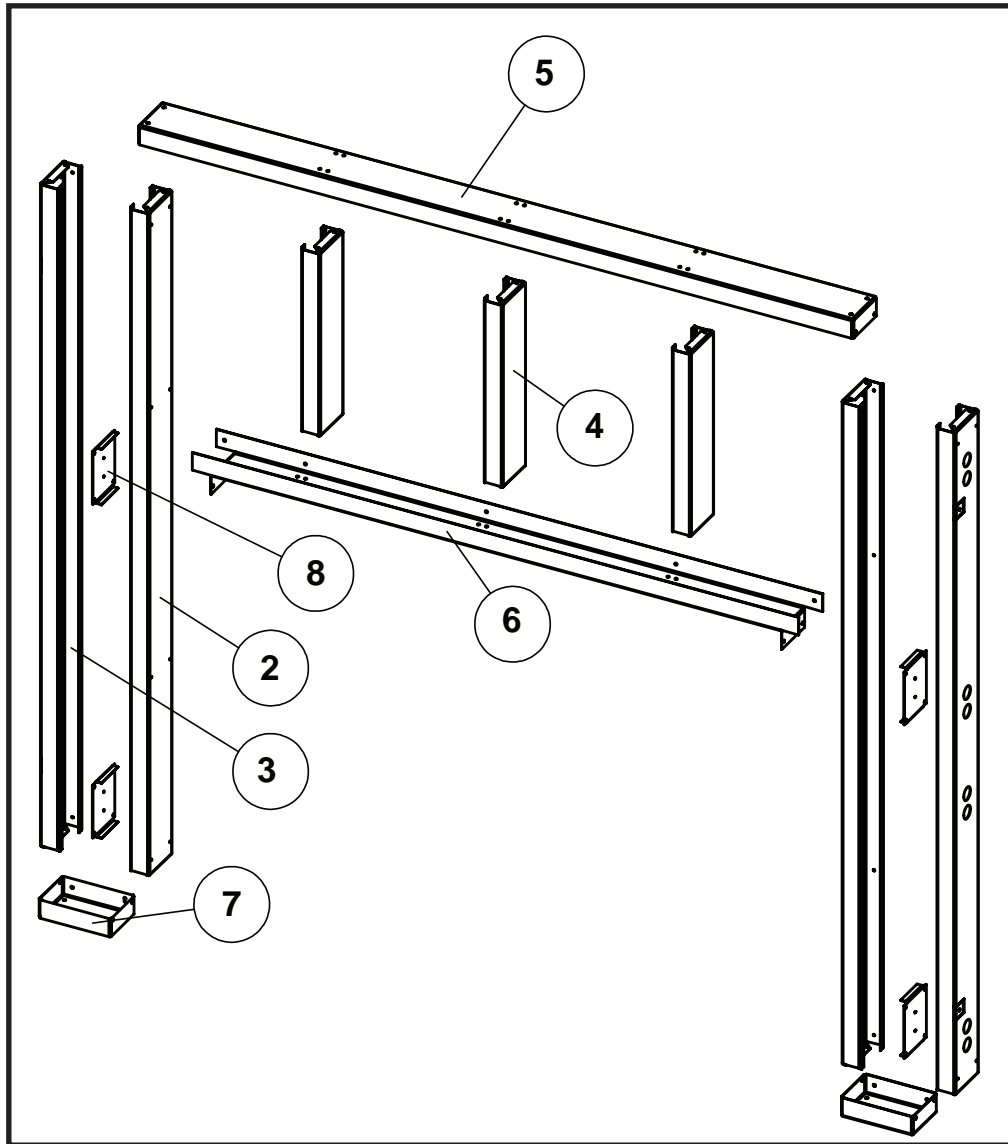
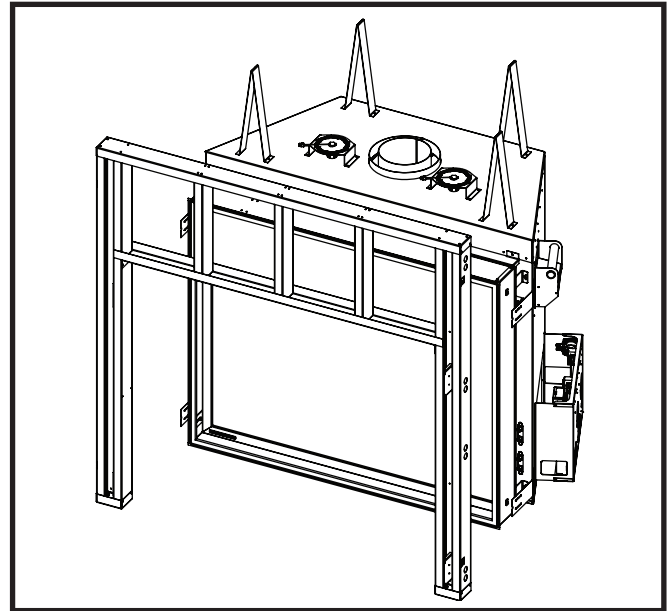
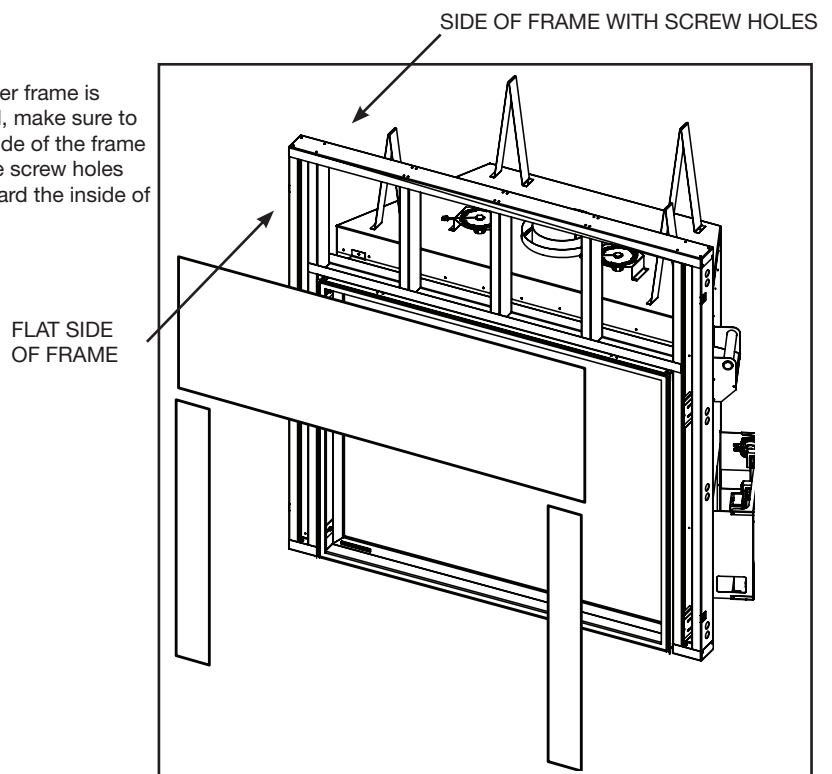

Figure 14: TC54 Steel frame assembly.
Figure 15: Align the assembled frame with the fireplace.
Figure 16: Aligning the frame so that the flat surface is facing outward.
- Lay out the horizontal header stud (5) on a large flat surface. (Position all pieces on their narrow edges as shown in the illustration in (Figure 14).
- Position the three short, vertical center studs (4) perpendicular to the horizontal header stud, and align with the corresponding sets of screw holes. Fasten with the screws (1) provided.
- Position the shorter horizontal plate stud (6) at the bottom end and perpendicular to the vertical center studs (4). Align the bottom ends of the vertical center studs to the corresponding sets of screw holes and fasten with the screws provided.
- Lay the inner vertical side stud (2) so that its top end aligns with the 2nd set of screw holes of the horizontal header stud (5). The side stud should attach to, and be perpendicular to the short plate stud end (6). Fasten with the screws provided.
- Fasten the vertical outer side studs (3) to the ends of the header stud (5).
- Position the base plate (7) at the bottom of the inner and outer side stud legs and fasten with the screws provided.
- Align the assembled frame to the unit framing brackets (Figure 15). Align the framing plates (8) to the fastening points through the access holes in the outer side studs (3).
- Secure the frame assembly to existing framing through the header stud (5) and the base plates (7).
- Use drywall screws to install the concrete board (Figure 16).